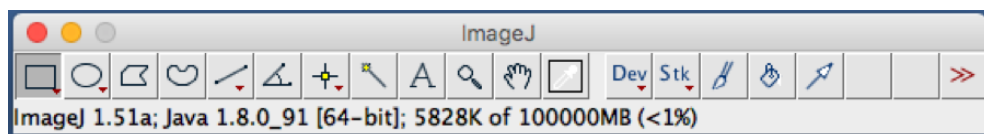

Figure 1: Checking that ImageJ is using the correct version of Java - 1.8.0_91 is this case.
3. Check that ImageJ is using the correct version of Java by running the application and hovering over the status bar as shown in figure 1.